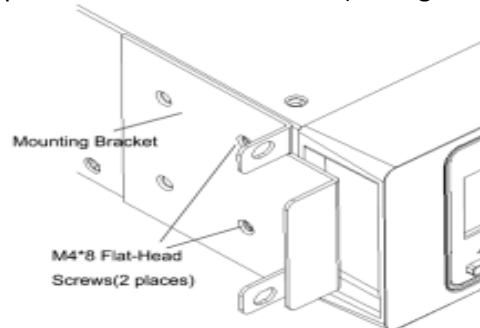

Figure3.2 Installing the Mounting Brackets
- d. Align the mounting brackets with the screw holes on each side of the UPS and fix with the supplied M4×8 flat-head screws(see Figure 3.2)